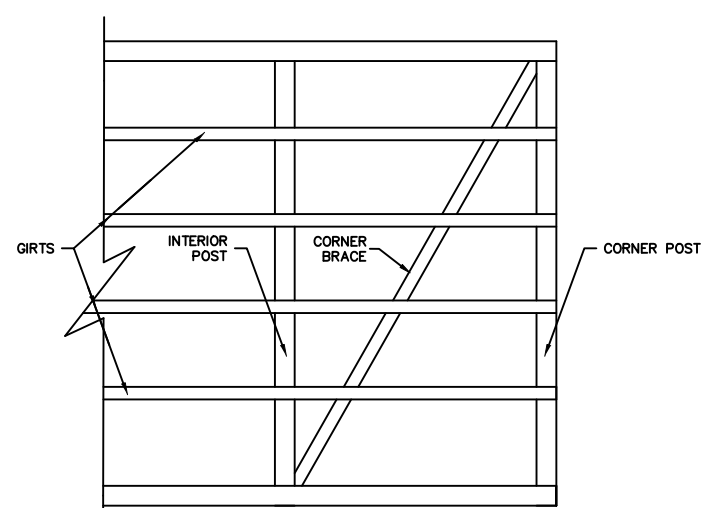

Figure 203-9
7. CORNER BRACING - Install the corner braces at each end at intervals shown on the elevations. Cut the brace to bear on the face of the posts and toenail the ends of the brace to the post. Nail at each intermediate girt from inside to outside and clinch as required. See figure 203-9.